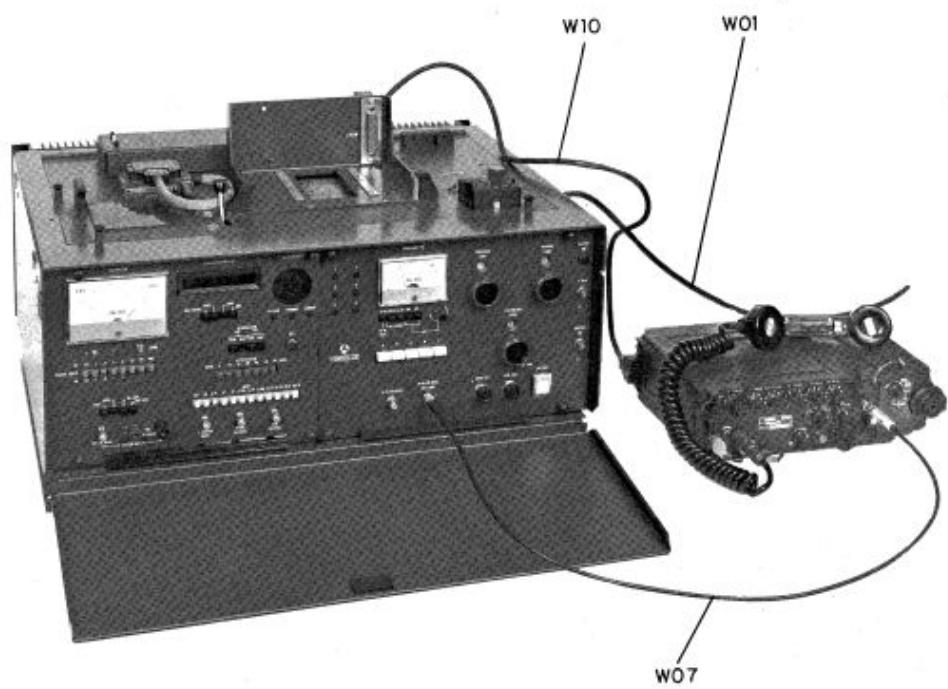

Fig. 2-1
PROCEDURE FOR TESTS A1 TO A10**1 - Prepare set up shown on opposite page and see fig. 2-1 and 2-2****1 - Dismantling the battery unit.**
- 1-1 - Set selector O, L, H, (rep. 1 - fig. 2-1) to the "O" position (position OFF).
2-1 - Prepare set up shown on the right page and see fig. 2-1.
2.1 - Prepare set up shown on the right page and see fig. 2-1.
2-1 - Prepare set up shown on the right page and see fig. 2.1.